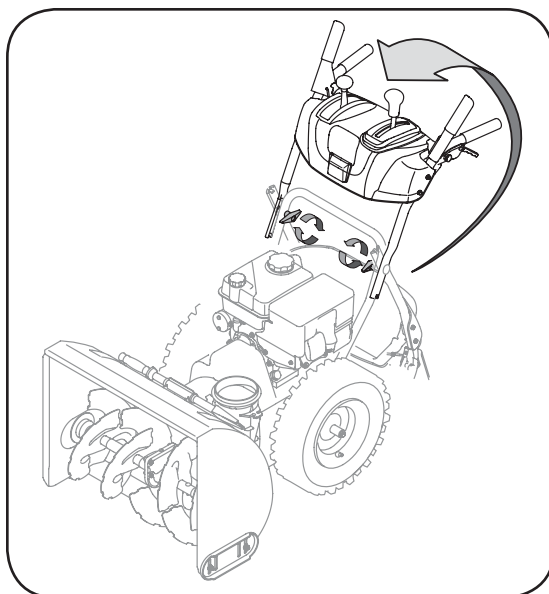

Figure 3-1
- a. Pull up and back on upper handle as shown in Figure 3-1. Align upper handle with the lower handle.